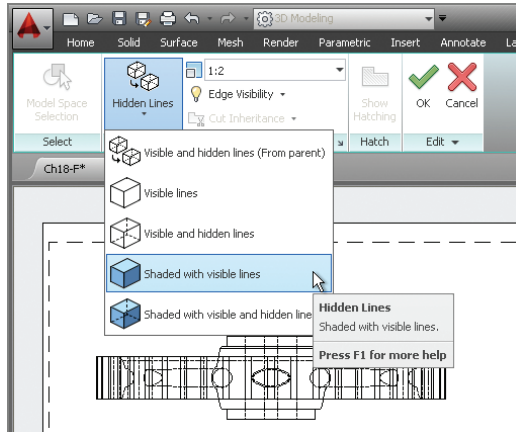

FIGURE 18.23 Changing a view's display properties
9. The isometric view is a bit large. Select it and you will see a red border appear around the view object. Click the Edit View tool on the Layout tab. On the temporary Drawing View Editor tab that appears, change the scale to 1:2. Open the Hidden Lines drop-down, and select Shaded With Visible Lines (see Figure 18.23). Click OK in the Edit panel.